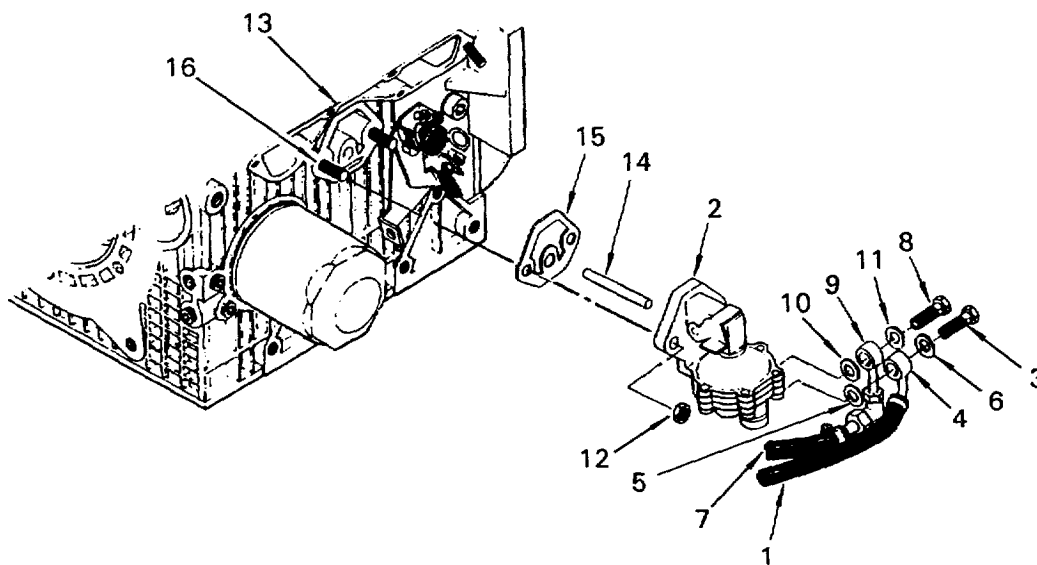

Figure 4-17. Fuel Pump Replacement
4.14.2 Replace Fuel Pump. (Refer to figure 4-17.)